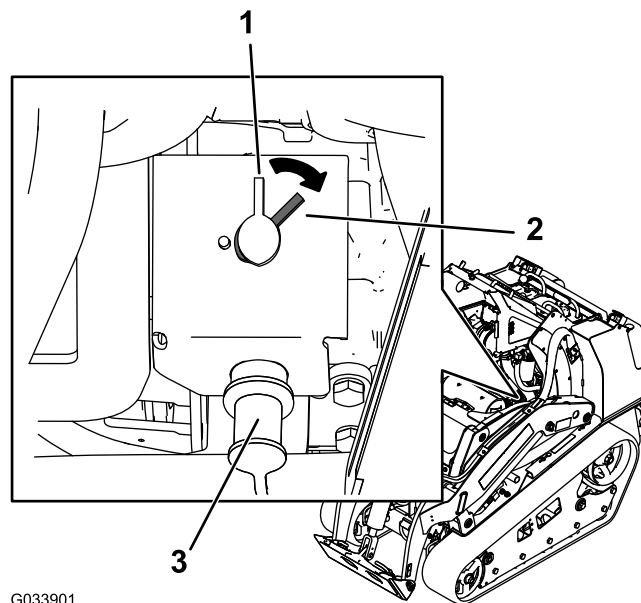

Figure 49
- To energize the machine electrically, rotate the battery-disconnect switch clockwise to the ON position (Figure 49).